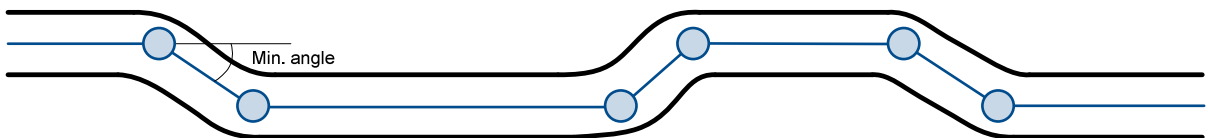

Figure 58 Angle based tracking
**Angle based data acquiring** (Figure 58) – records are being acquired when angle difference between last recorded coordinate and current position is greater than the defined value. Entering zero disables data acquisition depending on angle. This method is suitable for urban territories. Note that record generation by angle is performed if vehicle is moving at least 6 km/h.